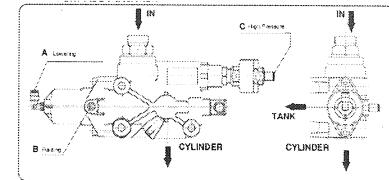

Figure 2
- For hose connections to the CVA16DP valve see (Figure 2)